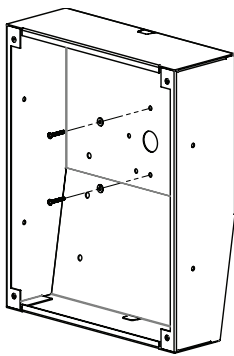

Figure 4: #6 screws and washers for mounting to gang box.
2. Select a mounting option from **Figures 4–7** and use the appropriate hardware for gang-box mount or wall mount. Bogen provides the screws and washers for mounting on a standard electrical gang box, but when mounting directly to a wall or other surface, you must supply the appropriate hardware for the specific wall/surface construction type (e.g., concrete cinder block, metal beams, etc.).